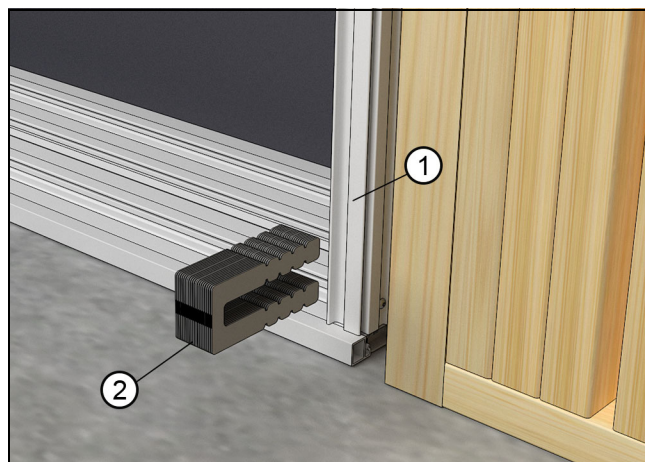

Figure 55 Center the frame and shim at pocket sill side
2. Center the frame in the rough opening and shim one corner at the bottom. See Figure 55.